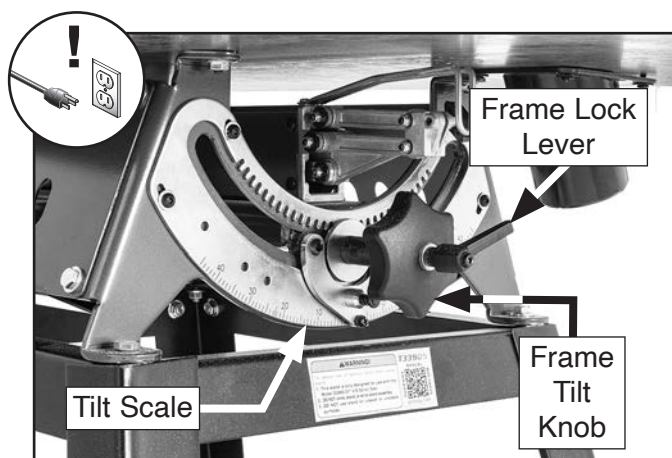

Figure 15. Frame tilt controls.
2. Loosen frame lock lever (see **Figure 15**).